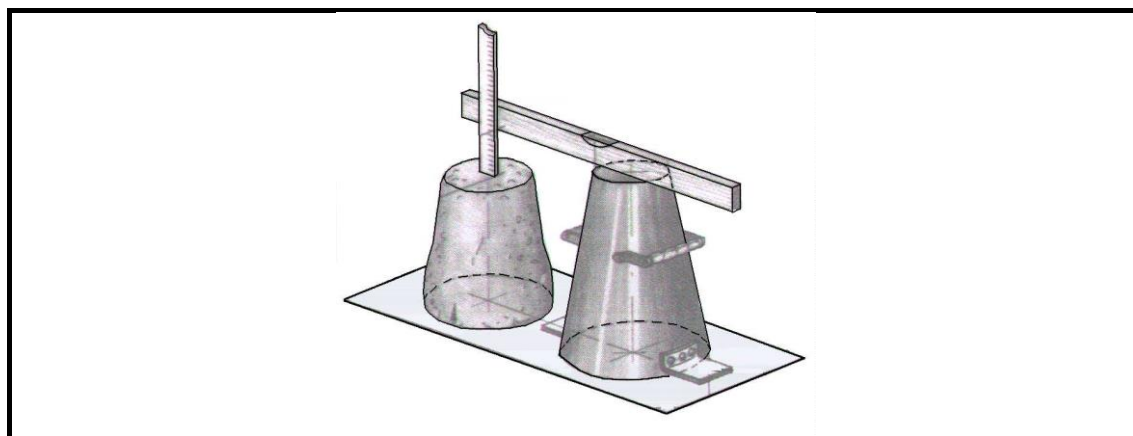

FIGURE 4.2
- 4.2 Answer the following questions with regard to the test in FIGURE 4.2.